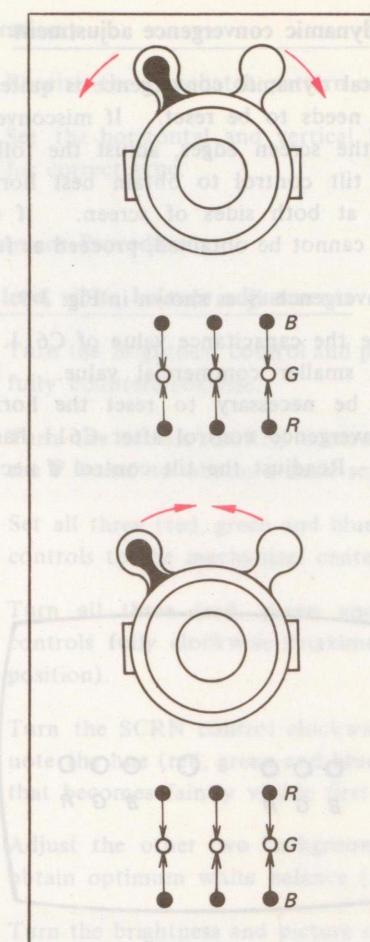

Fig. 3-7. Action of the beam alignment magnet
- Spread the two tabs of beam alignment magnet in equal amounts opposite directions to converge red dots and blue dots with green dots. See Fig. 3-7.